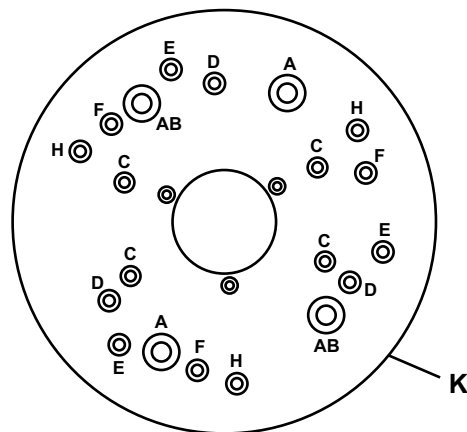

Figure 8
2. Place the adaptor base plate (K) on the router base according to mounting pattern identified in chart. See Figures 8 and 9.